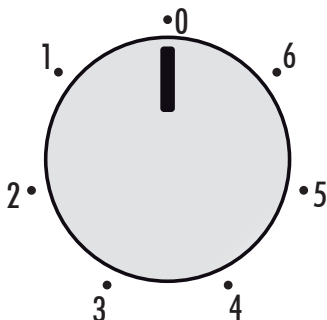

Fig. 2.1
- Turn the cooktop over and unhook the terminal board cover by inserting a screwdriver into the two hooks "A" (fig. 2.1).
The heating element (fig. 2.2) consists of 3 electrical resistances which can operate together or separately according to the setting of the 7-position switch (fig. 2.1). It reaches the required temperature very quickly.